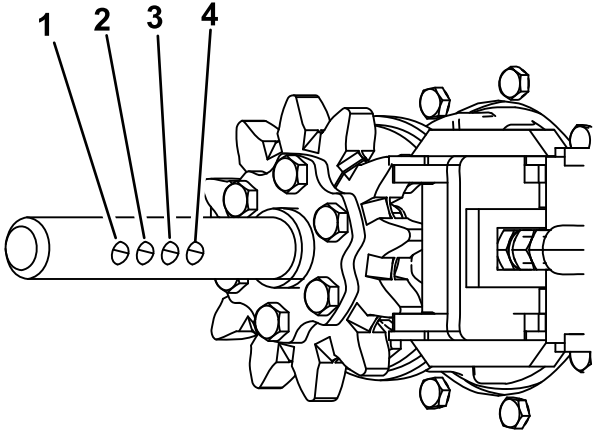

Figure 6
1. Use the bolt and nut removed from the auger previously to secure it in the correct holes, as shown in Figure 6.